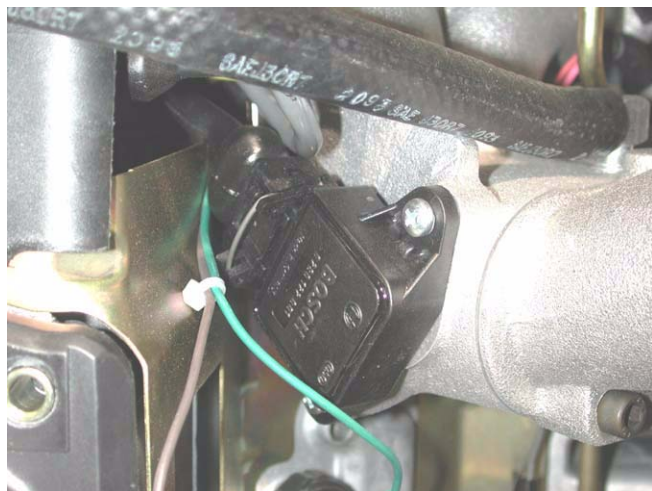

Figure 11.12
11.12. The Throttle Position Sensor tells the ECU what the position of the throttle plate is. It is essentially a potentiometer. See Figure 11.12.